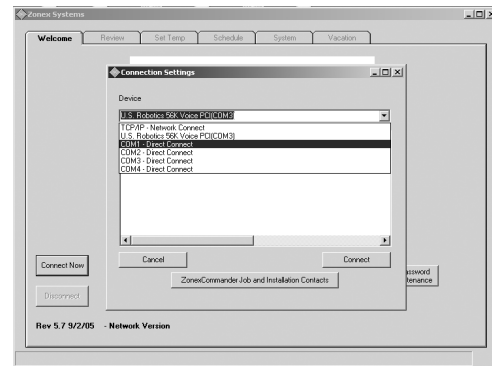

Fig. 3
- b. Verify that the **Connection Settings** window appears (see Fig. 3).